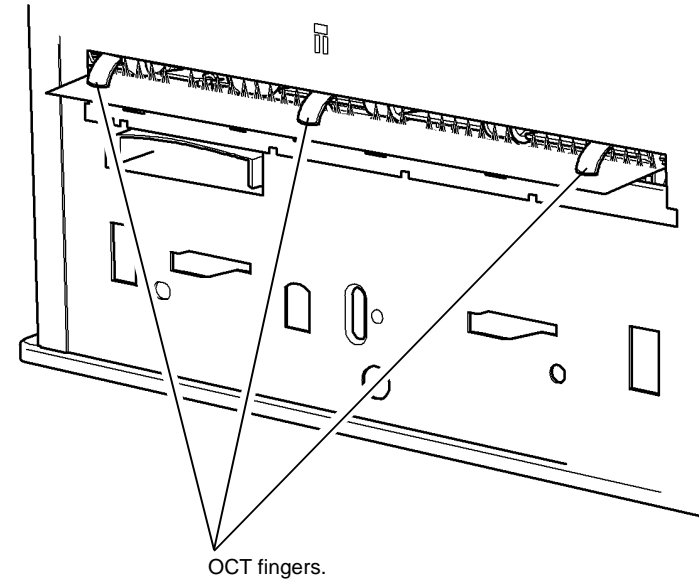

Figure 4 Finger check
When the right cover is installed, make sure that the OCT fingers extend through the hole in the right hand cover. Refer to Figure 4.
7. Install the right hand cover, Figure 4.